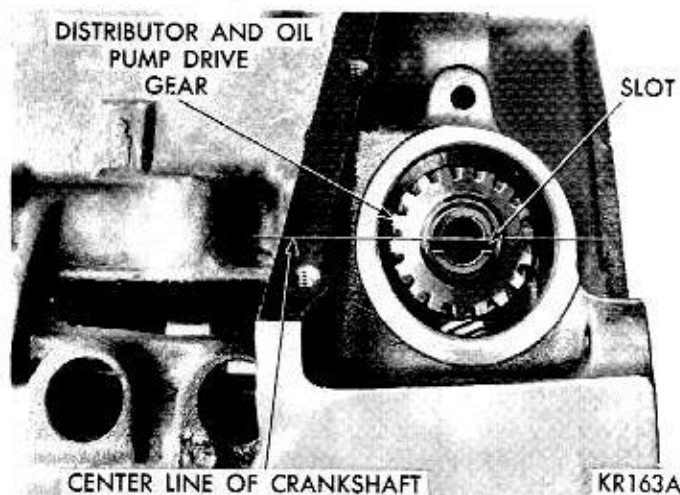

Fig. 29—Distributor Drive Gear Installed
(3) Coat shaft and drive gear with engine oil. Install the shaft so that after gear spirals into place, it will index with the oil pump shaft, so slot in top of drive gear will be parallel with center line of crankshaft (Fig. 29).